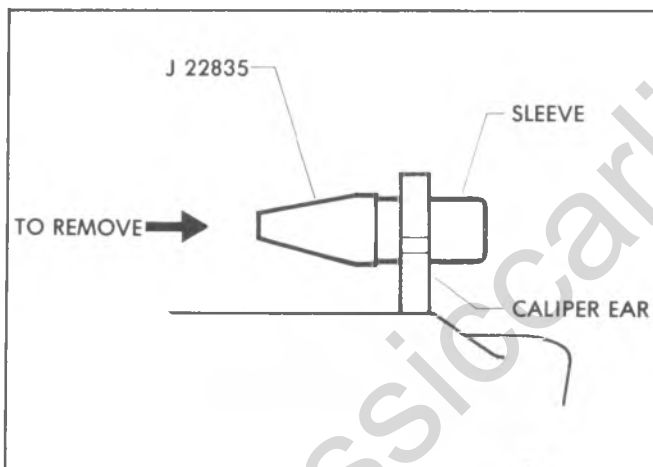

Fig. 5-22-Removing Sleeves
4. Using Tool J-22835, remove the sleeves from the inboard ears of the caliper (fig. 5-22). Next, remove the rubber bushings from the grooves in each of the four caliper ears.